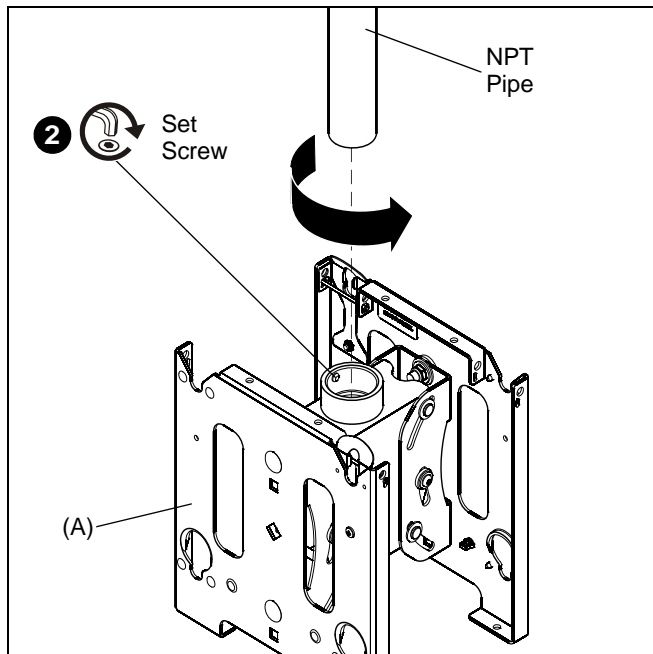

Figure 1
1. Thread the MCD (A) onto the existing 1-1/2" NPT pipe until tight. (See Figure 1)
2. Using the hex head wrench (B) tighten the set screw into the MCD threaded collar to prevent movement of the mount. (See Figure 1)